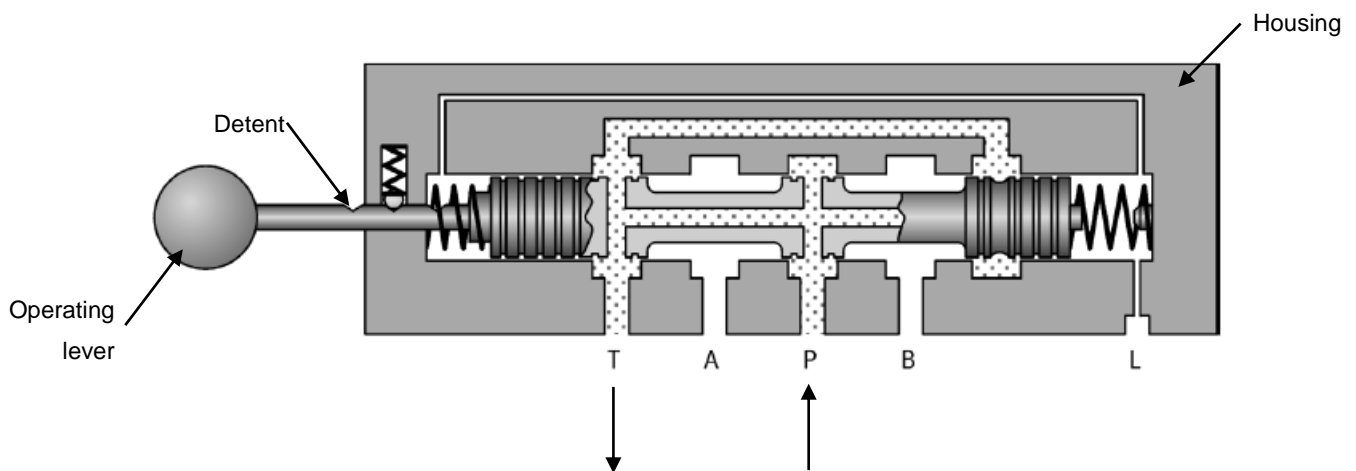

FIG 3.
A. In a tandem-centre system, the oil from the pump is allowed to flow through the centre of the valve (from port p to port t) and back into the reservoir when the valve is in a neutral position. (Fig 3).